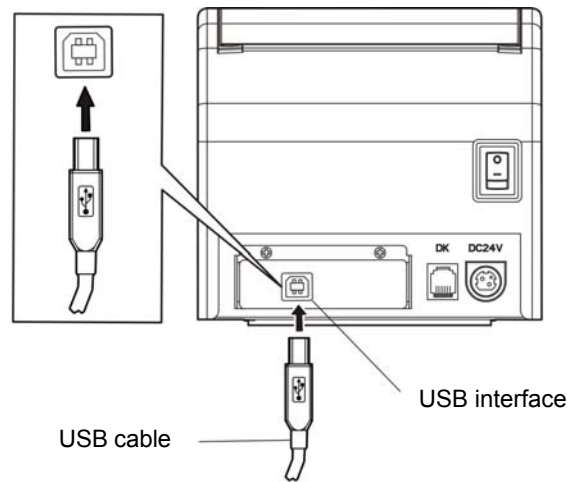

Figure 2-4 Connecting the USB cable
2. Plug the USB cable B end (square shape) into the printer's USB interface. (As shown in Figure 2-4)